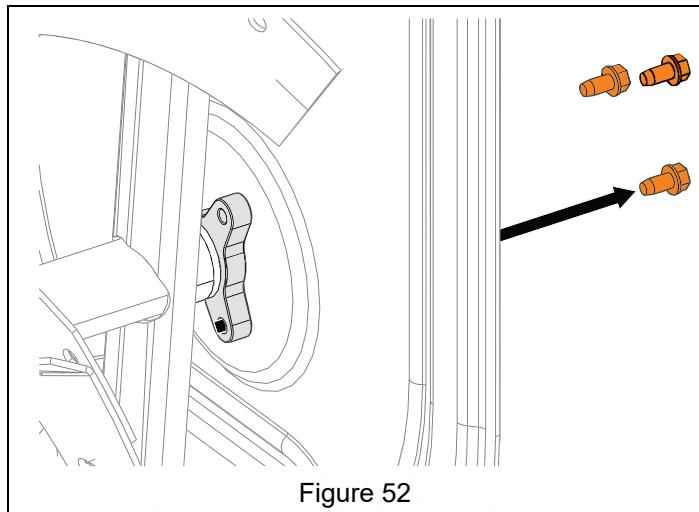

Figure 52
7. Remove hardware retaining support bushings to auger housing. See Figure 52.